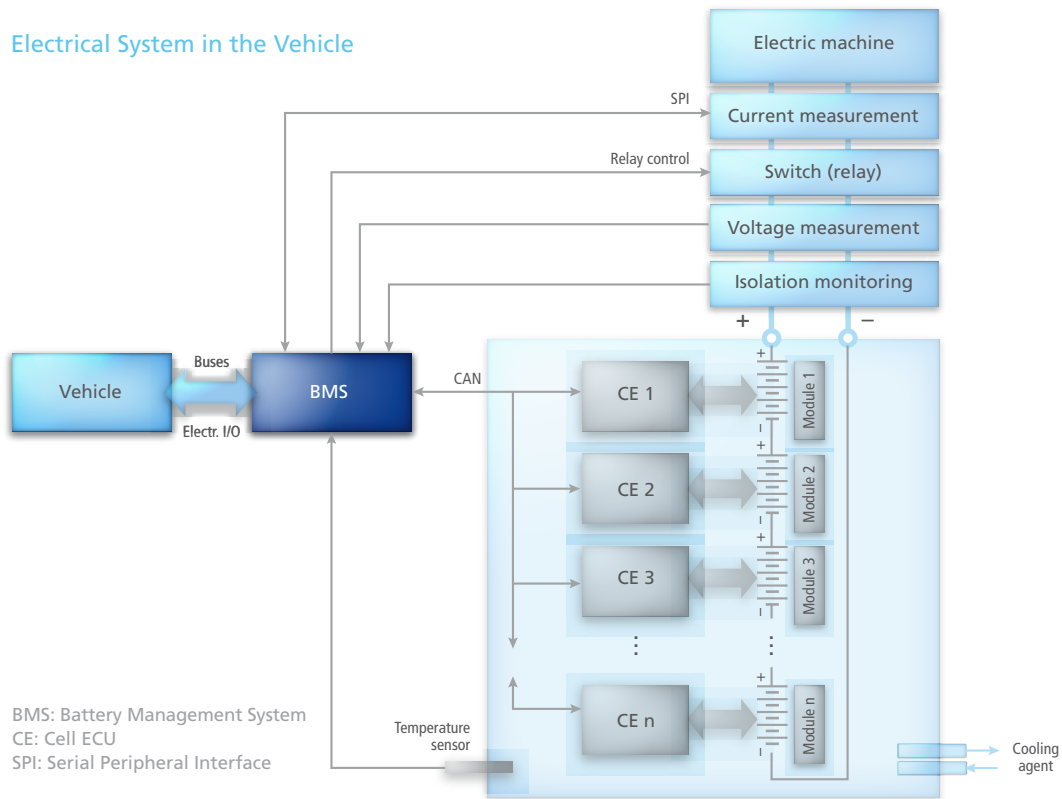

Figure 1: Battery management is performed by the BMS in conjunction with the cell ECUs (CEs), which are directly connected to, and monitor, the battery modules.
To achieve the high voltages and currents for electrifying the drivetrain, the lithium ion batteries are made out of cascaded cell modules. At BMW, the cells are monitored and controlled by an extensive ECU system (figure 1). It consists of one cell ECU (CE) per battery module and one higher-level BMS, connected via CAN. The main job of each cell ECU is to measure the cell voltage and perform controlled cell discharge, while the BMS takes care of battery management.